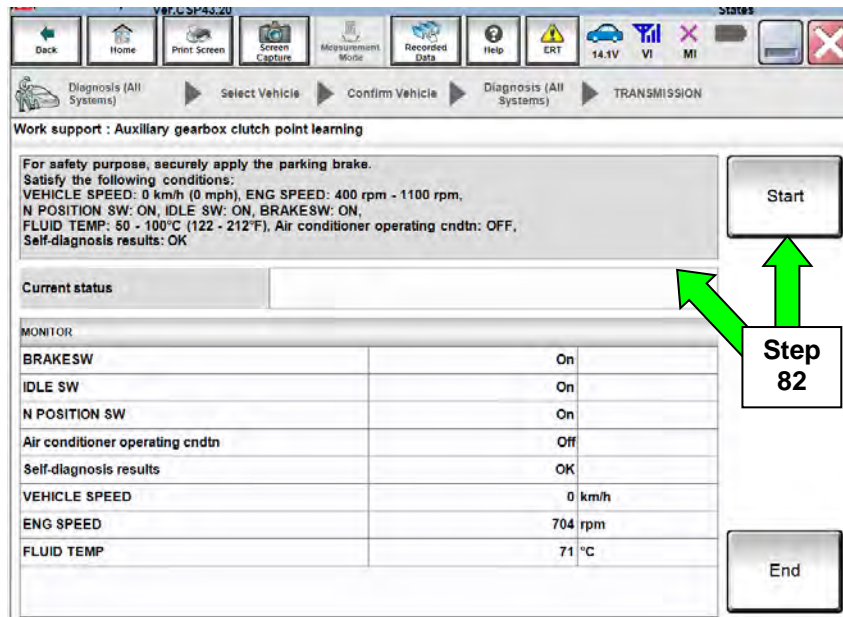

Figure 42
82. Follow the on-screen instructions in Figure 42 and then select **Start**.